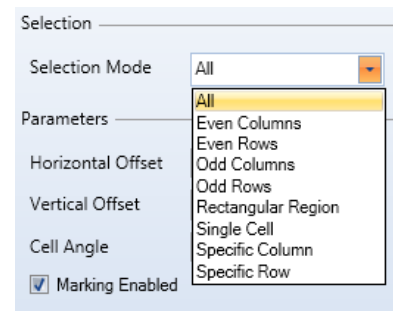

Figure 7 - Selection option
- **Selection:** contains the **Selection Mode** dropdown list. The **Selection Mode** dropdown list allows you to specify an individual cell, or a group of cells, for marking. as seen different selection in **Figure 7 - Selection option** (below)